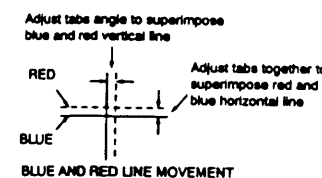

Fig 19.
- 3: vertical lines in the centre area of the picture screen. Refer to fig. 19.
- 4: Keeping the mutual angle of the tabs of the four pole magnet turn them together to superimpose the blue and red horizontal lines in the centre area of the picture screen. Refer to fig. 19.